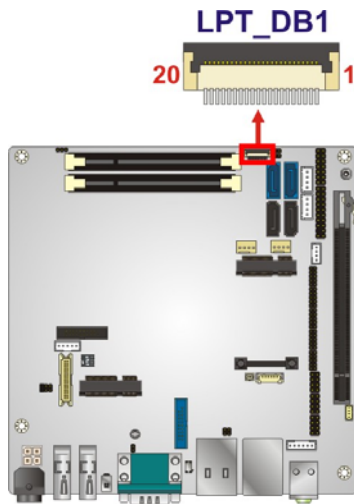

Figure 3-7: BIOS Debug Port Location
- CN Location:** See **Figure 3-7**